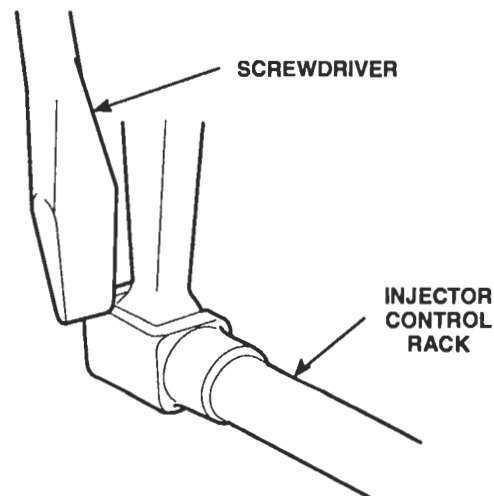

Figure 4. Checking Injector Control Rack "Spring"
5. Hold the speed control lever in maximum speed position and, using a screwdriver, press downward on the injector control rack. The rack should tilt downward (Figure 4.) and when the pressure of the screwdriver is released, the control rack should "spring" back upward.